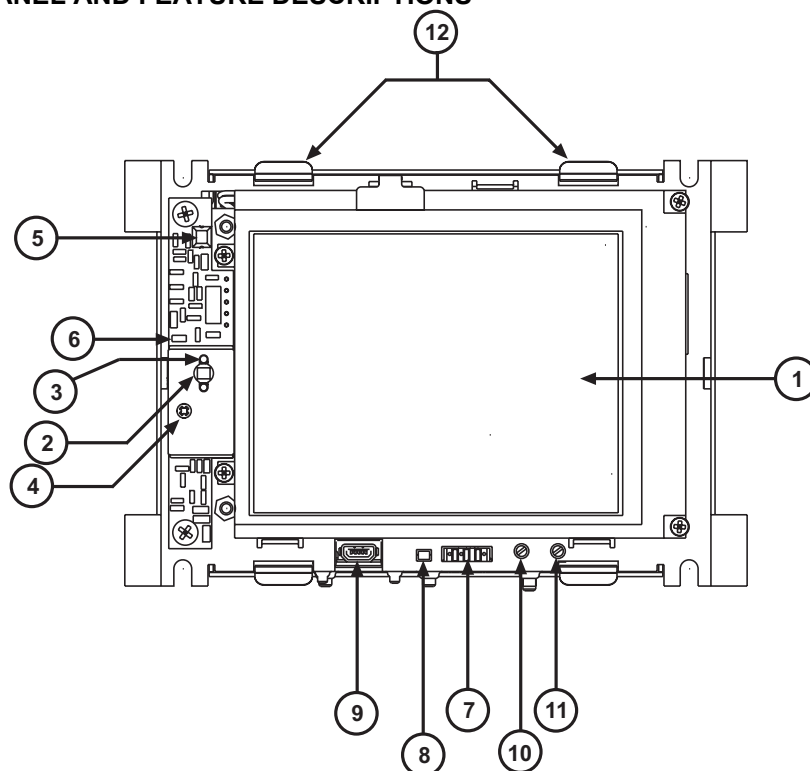

Figure 2a – SmartPad LCD™ Model SPLCD39G – Front Panel Features and Functions
4. **IR Sensitivity Adjustment.** Carefully adjust for background light level to prevent false triggering of the IR circuits. Slowly turn clockwise to reduce sensitivity if positioned as shown in **Figures 2a, 2b (Lower Viewing Angle)**, with the **IR Receiver** positioned on the **left side**, or counterclockwise if installed in the reverse position, (**Upper Viewing Angle**, with the **IR Receiver** positioned on the **right side**).
12. **Bezel Mounting Clips (4).** Guide clips for mounting the Front Bezel onto the SPLCD.